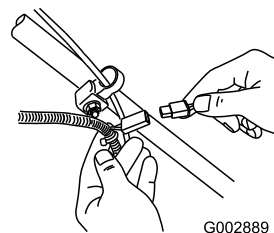

Figure 28
1. Connect the charger to the wire harness located below the electric-start button (Figure 28).